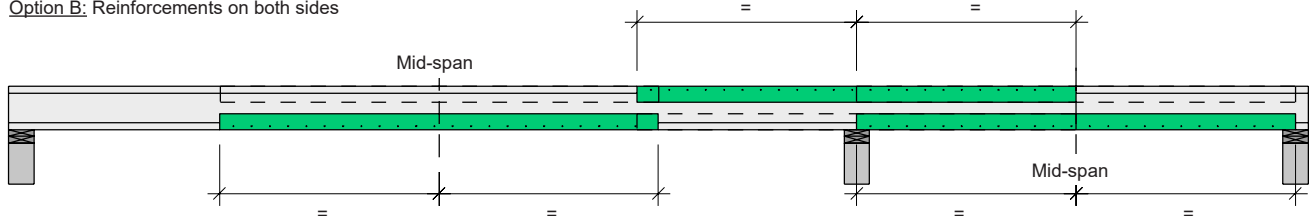

Figure 3. Reinforced NI-20 I-joist in multiple span – See Figure 1 for details
- d. For a double span, centre the pieces of lumber on each span and on the intermediate support, per Figure 3 (using two lumber pieces at each location).